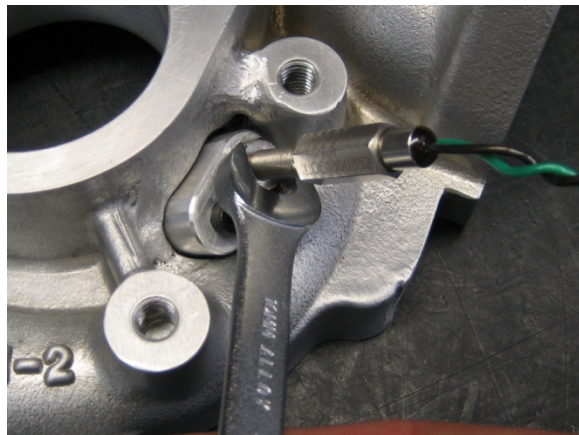

Fig. 11
11. Tighten the speed sensor lock nut firmly with a 10mm wrench. If there is not enough clearance to use a wrench, use needle-nose or similar pliers in conjunction with threadlocking compound to tighten the nut as securely as possible. (see figures 11 and 12).